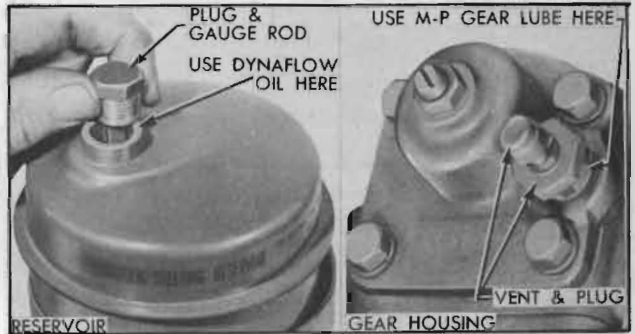

Figure 1-8—Power Steering Gear Filler Plugs
15. *Steering Gear.* Clean adjacent area, then remove gear housing filler plug, or filler plug and vent on a power steering gear (Fig. 1-8). Add lubricant only as required to bring level to bottom of filler opening, using Multi-Purpose Gear Lubricant as specified for synchromesh